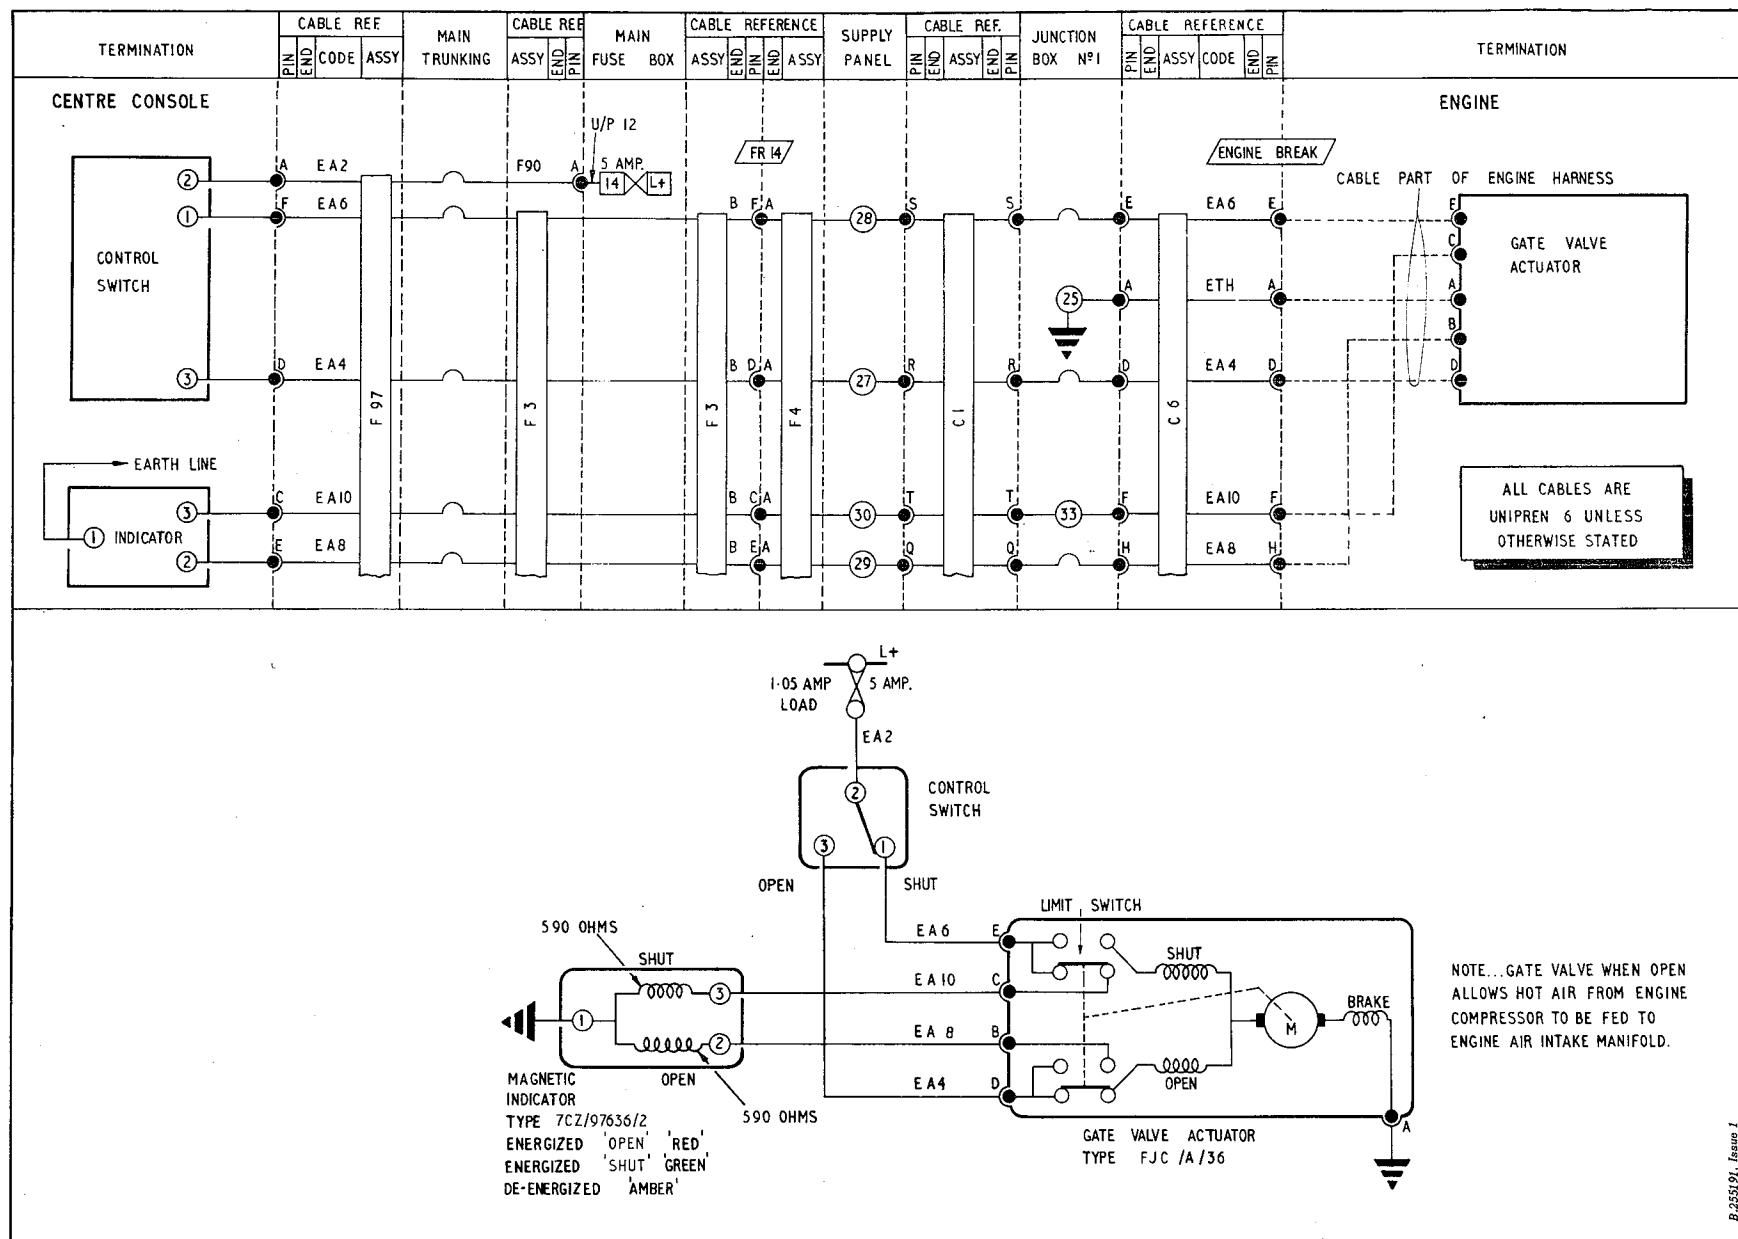

Fig. 1. Engine anti-icing (routeing and theoretical)
3. The diagram of the circuit (fig.1)